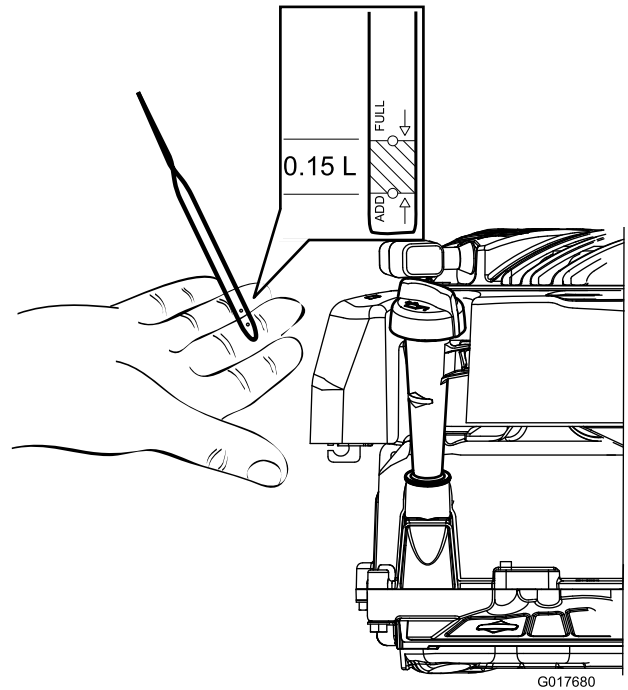

Figure 10
2. Remove the dipstick and check the oil level (Figure 10). If the oil level is below the Add mark on the dipstick, slowly pour oil into the oil fill tube to raise the oil level to the Full mark on the dipstick. Wait 3 minutes after adding oil to check the oil level with the dipstick (Max. fill: 20 oz. (0.59 l), type: SAE 30 detergent oil with an API service classification of SF, SG, SH, SJ, SL, or higher).